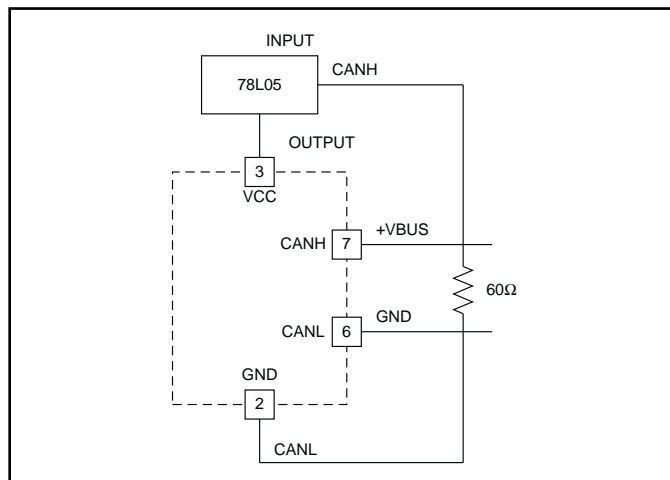

Figure 9. Crosswire No. 1
*\*Refers to Figures 9, 10, 11, 12 and 13.*